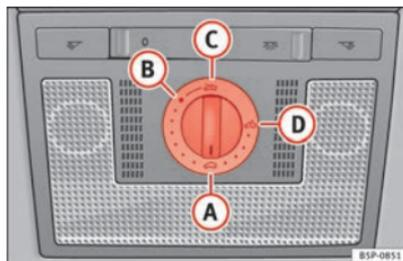

Fig. 66 Roof lining description: sliding/tilting sunroof rotary knob
- Turn the rotary button to position **A** ⇒ Fig. 66 ⇒ ⚠.